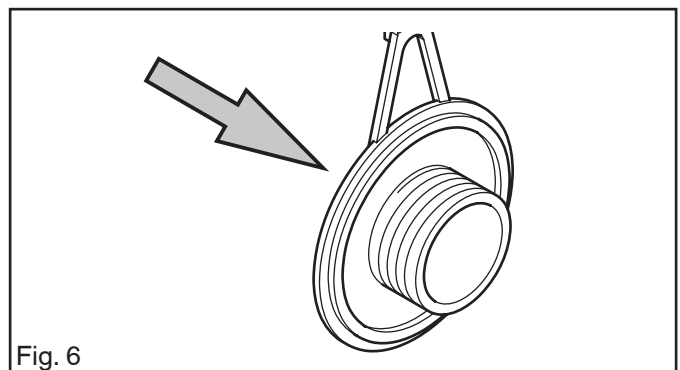

Fig. 6
4. The worm gear of the oil pump drive should be undamaged. See fig. 6.